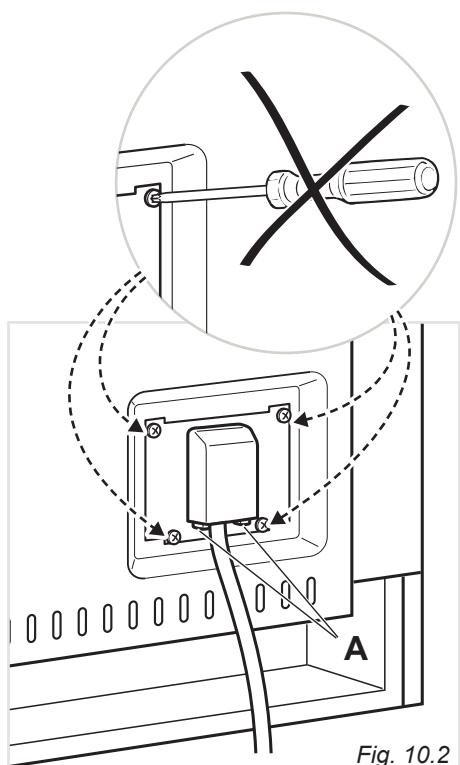

Fig. 10.2
- Unhook the terminal board cover by inserting a screwdriver into the two hooks "A" (fig. 10.2).